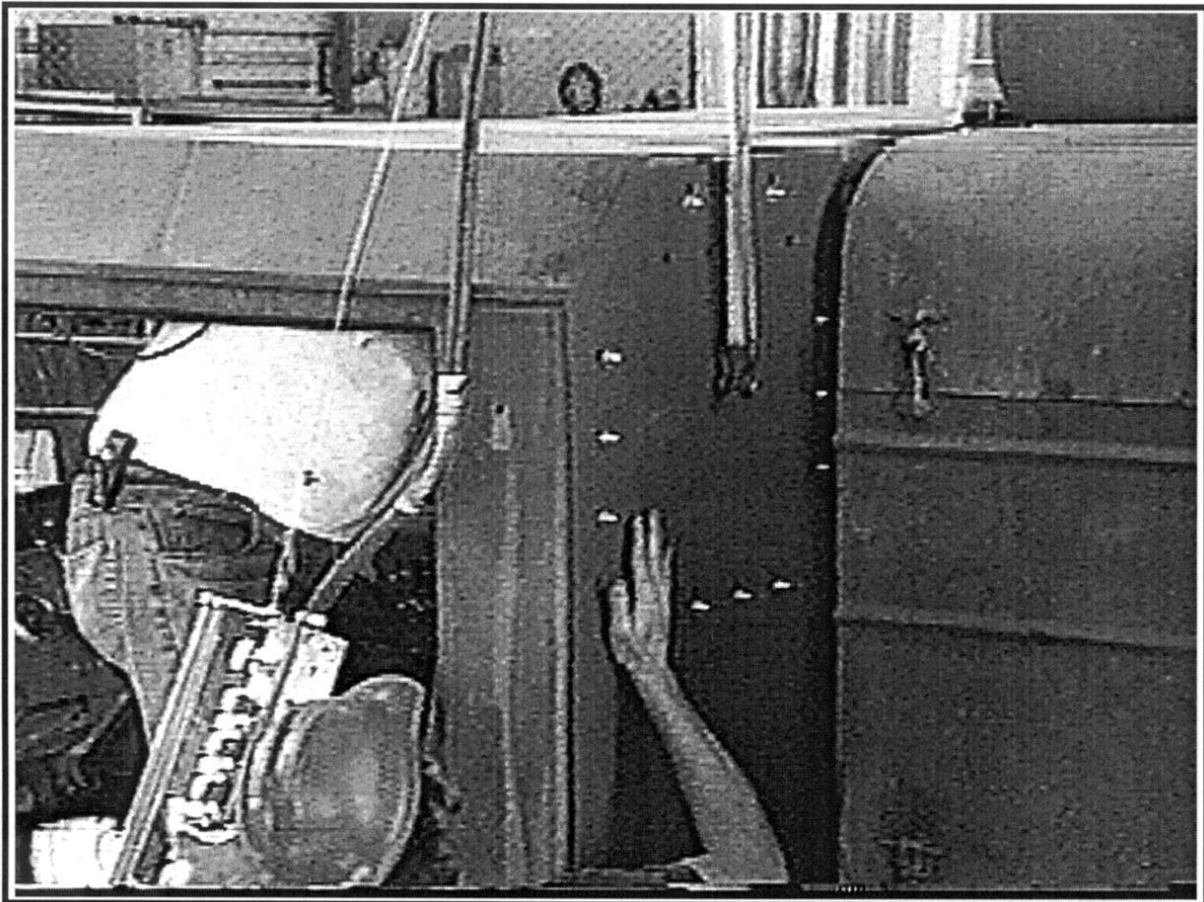

Figure 30. Install Mounting Armor Brackets to the driver's-side rear cab armor panel.
- c. Install four Mounting Armor Brackets (P/N 106734) onto the Rear Cab Armor Panel (P/N 106724-3) (See Figure 30) using 12 washers (3/8 ID), 12 washers (1/4 ID), and 12 locknuts (1/4 – 20). Tighten the locknuts finger tight.